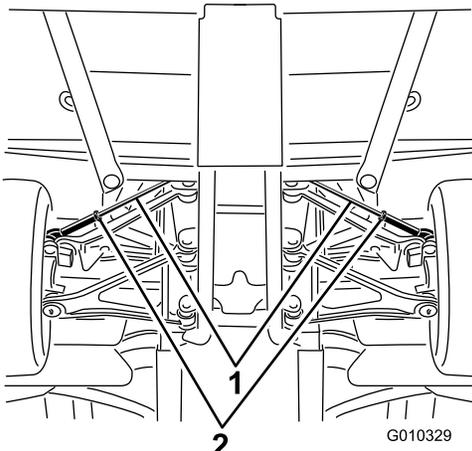

Figure 52
- Loosen the jam nut at the center of the tie rod (Figure 52).